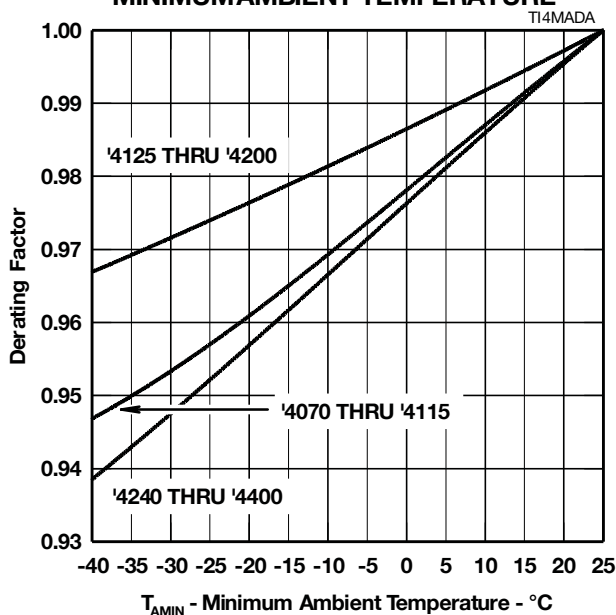

Figure 11.
- NOTES: 1. See Applications Information and Figure 11 for voltage values at lower temperatures.
Figure 11 allows the calculation of the protector V_{DRM} value at temperatures below 25 °C. The calculated value should not be less than the maximum normal system voltages. The TISP4265M3BJ, with a V_{DRM} of 200 V, can be used for the protection of ring generators producing 100 V rms of ring on a battery voltage of -58 V (Th2 and Th3 in Figure 18). The peak ring voltage will be $58 + 1.414 \times 100 = 199.4$ V. However, this is the open circuit voltage and the connection of the line and its equipment will reduce the peak voltage. In the extreme case of an unconnected line, clipping the peak voltage to 190 V should not activate the ring trip. This level of clipping would occur at the temperature when the V_{DRM} has reduced to $190/200 = 0.95$ of its 25 °C value. Figure 11 shows that this condition will occur at an ambient temperature of -28 °C. In this example, the TISP4265M3BJ will allow normal equipment operation provided that the minimum expected ambient temperature does not fall below -28 °C.